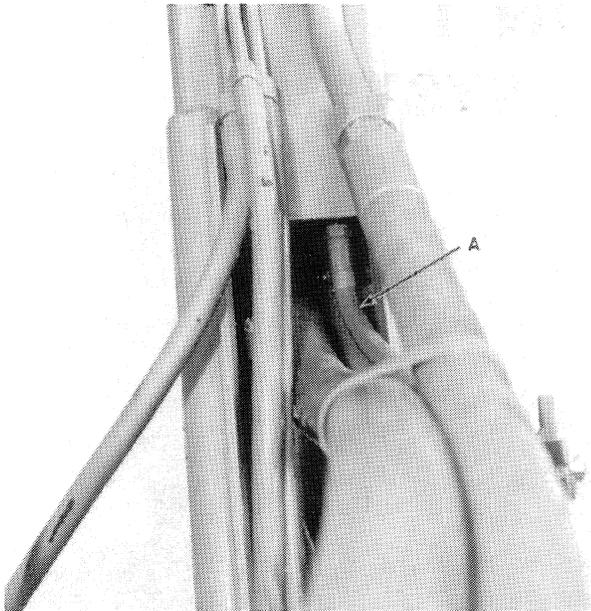

FIGURE 1-3
6. If a flow meter is not available to check case drain oil volume at the pump, oil can be collected in a measurable container. Disconnect the case drain return line, A, Figure 1-3, and install a $\frac{3}{8}$ " pipe plug in tongue.